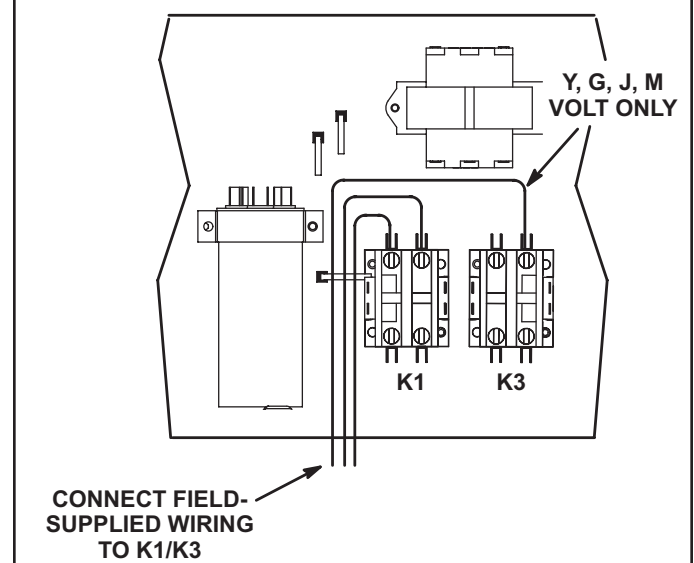
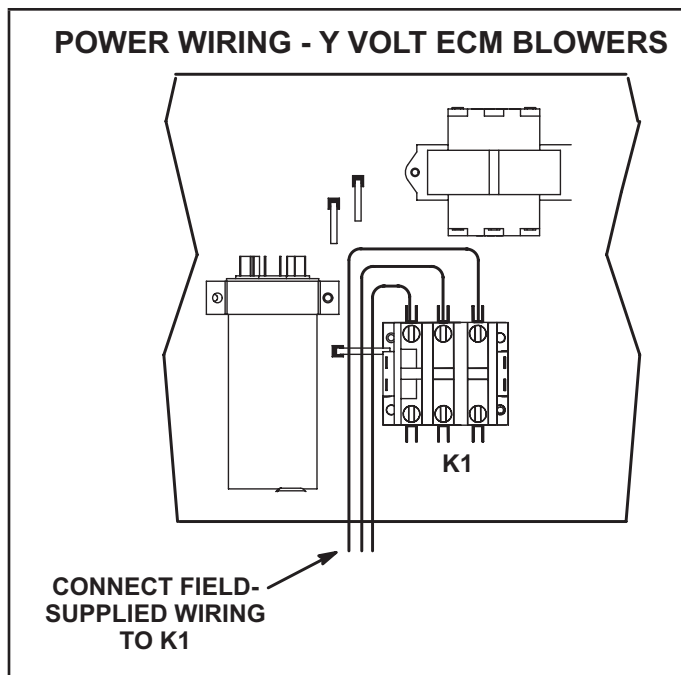

FIGURE 11
FIGURE 12
- 2 - Route power through the side or bottom power entry area. For bottom power entry, a bottom power entry kit must be used. Connect power wiring to K1/K3 contactors in the control box. See FIGURE 11 or FIGURE 12. On ZCD units equipped with electric heat, route power wiring to TB2; see parts arrangement for location. See unit wiring diagram.